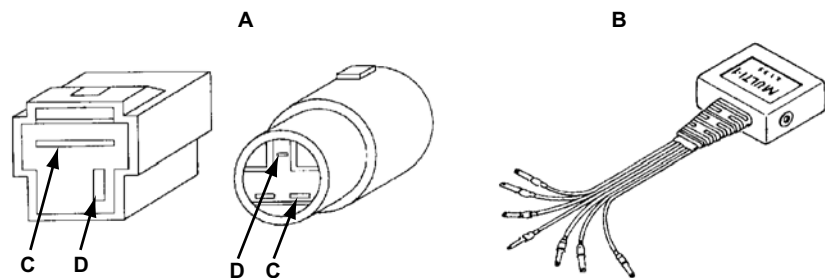

Figure 5-2 Connectors and adapter for most vehicles before 1987
- Figure 5-2—Engine codes for most vehicles before 1987